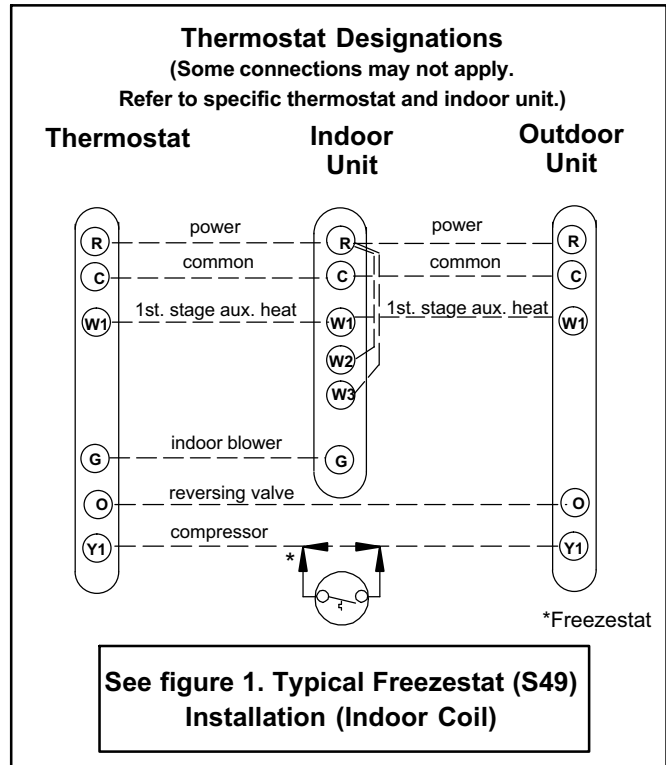

Figure 2. S49 Freezestat Wiring
This installation method is applicable to systems that use standard thermostat wiring (see figure 2).
3. Connect freezestat (S49) wires as exemplified in figure 2.